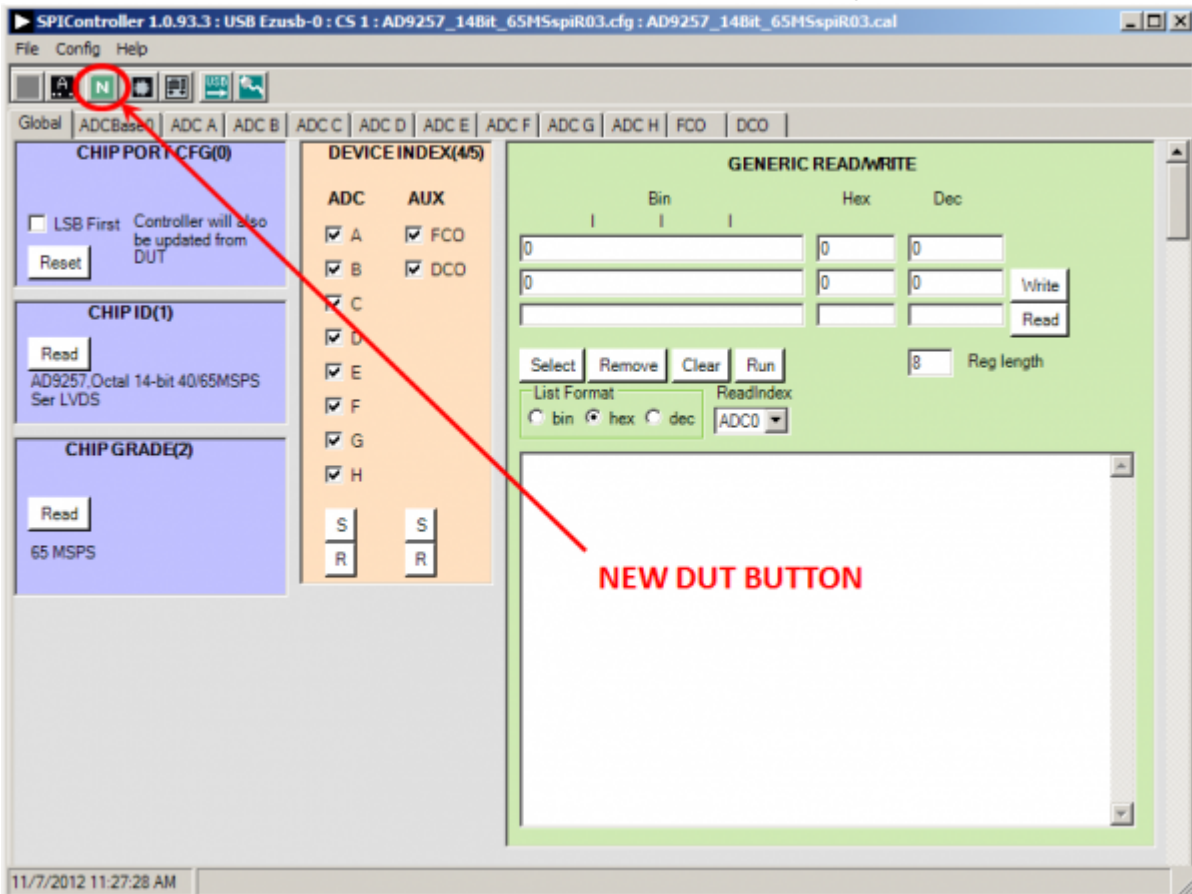

Figure 8.
- Click the **New DUT** button in the **SPIController** window (see Figure 8)